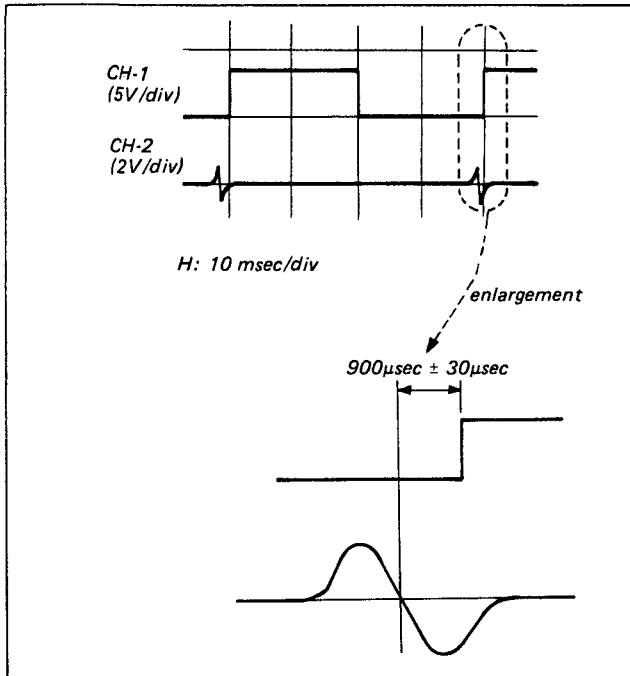
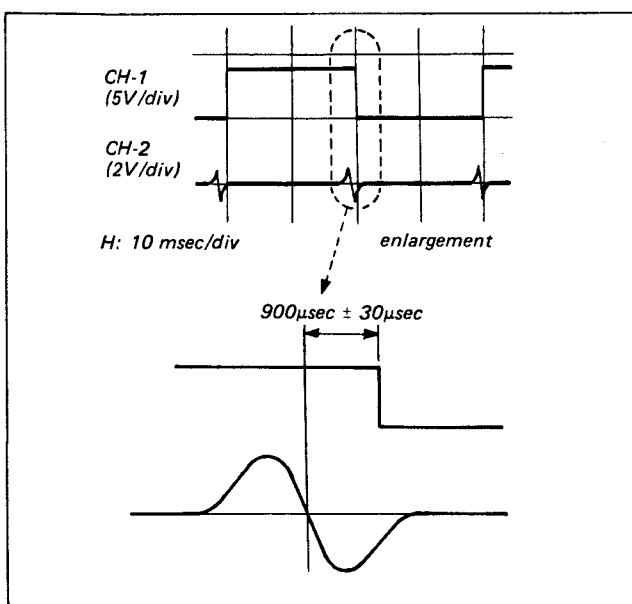

Fig. 5-8. RF switching position adjustment (1)
Fig. 5-9. RF switching position adjustment (2)
- Adjust to $900 \mu\text{sec} \pm 30 \mu\text{sec}$ with RV302. (See Fig. 5-8.)
- Change connection of CH-2 only to Pin ③ of IC301.
- Adjust to $900 \mu\text{sec} \pm 30 \mu\text{sec}$ with RV301. (See Fig. 5-9.)